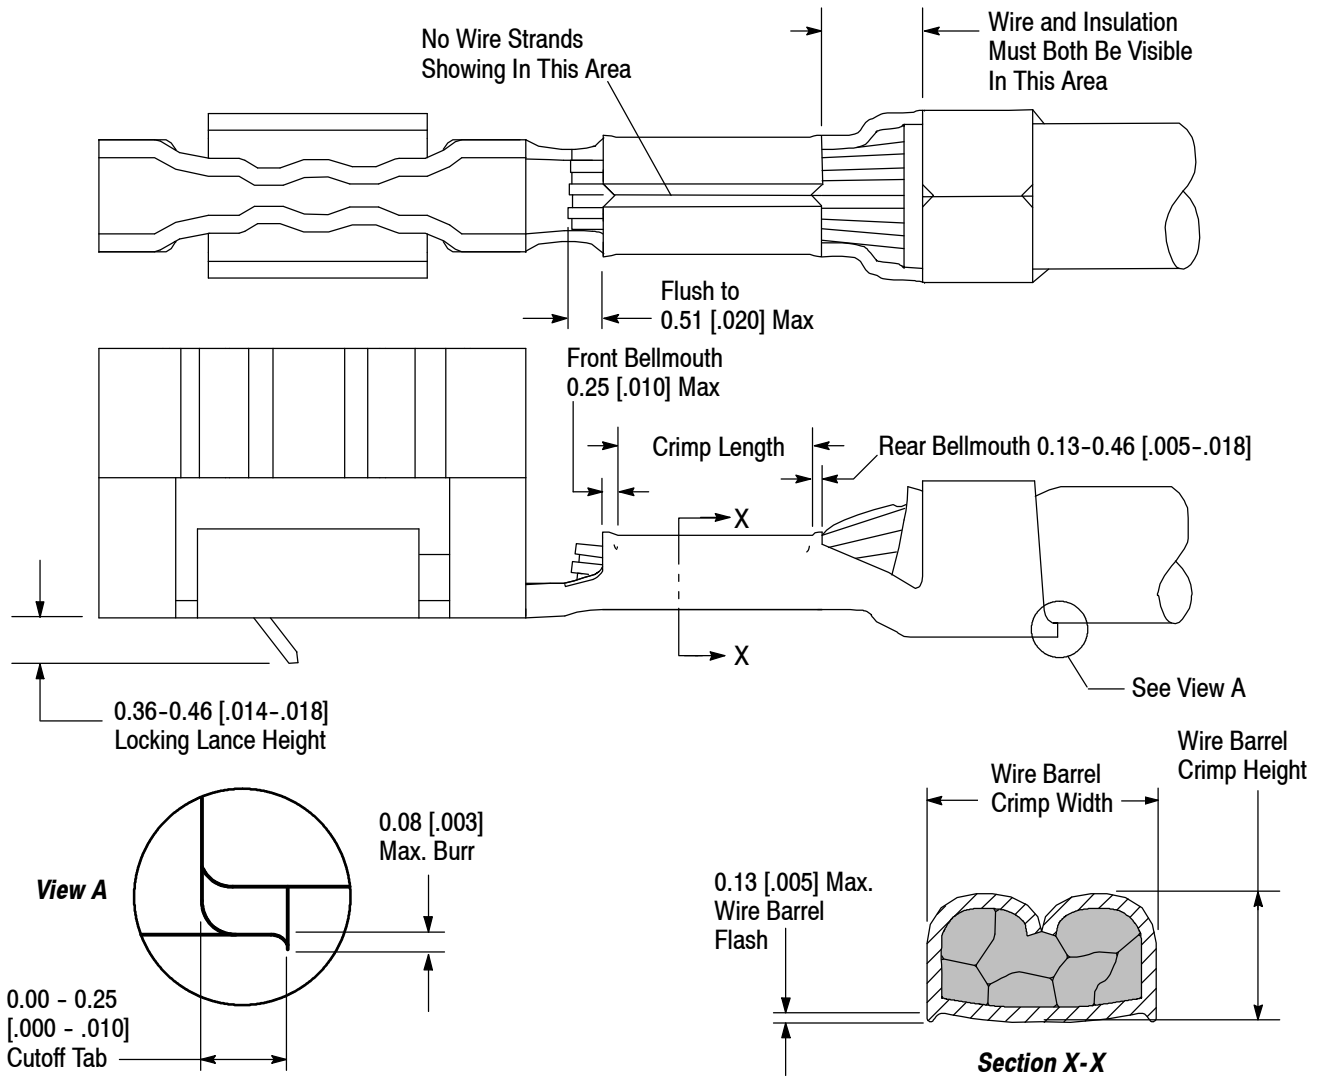

Figure 3
**NOTE**  *Periodic inspections must be made to ensure crimped contact formation is consistent as shown in Figure 3.*
Front and rear bellmouths shall be evident and conform to the dimensions given in Figure 3.
The cutoff tab shall be cut to the dimensions shown in Figure 3 in View A.
The cutoff burr shall not exceed the dimensions shown in Figure 3 in View A.
The wire barrel flash shall not exceed the dimensions shown in Figure 3 in Section X-X.
The conductor may extend beyond the wire barrel to the maximum shown in Figure 3.